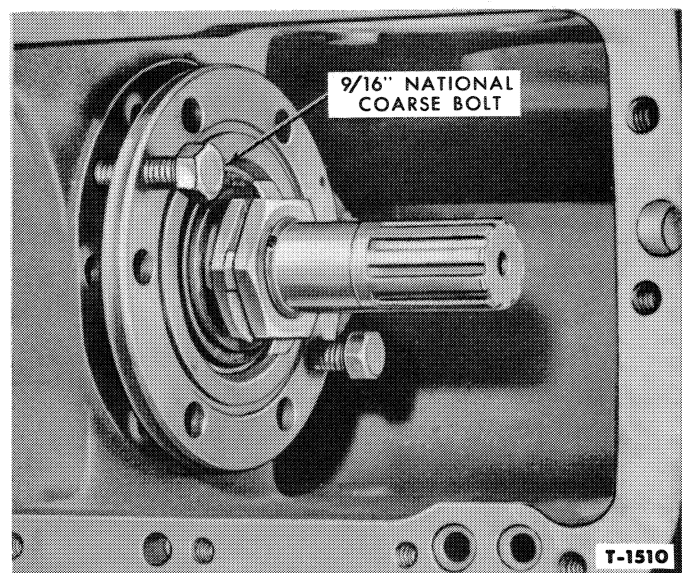

Figure 12—Removing Pinion Gear Retainer and Shaft Assembly
2. Insert two $\frac{9}{16}$ " x 3" National Coarse bolts in the retainer and use them as "pullers", Figure 12. Remove the retainer and pinion assembly.